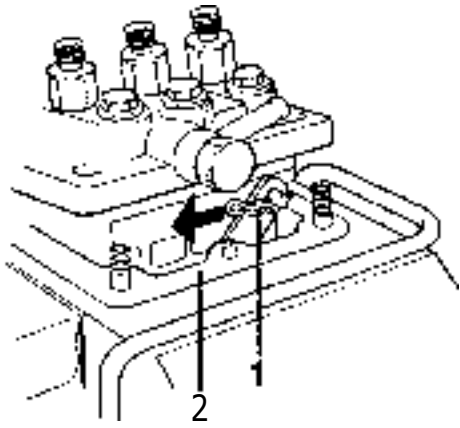

Fig. 57. Dismantling of injection pump
7. Release the injection pump. Turn the stop lever clockwise and carefully lift up the pump so that the lock pin to the regulator arm is accessible (Fig. 57). Remove the lock pin and release the regulator arm. Lift off the injection pump.